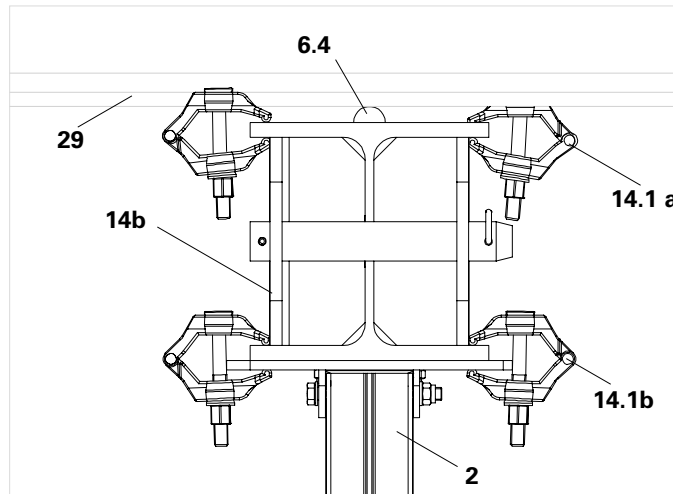

Fig. B1.01
Install centring bar (6.4) between the Main Beams HDT (4b) and the longitudinal beams (29). (Fig. B1.01)